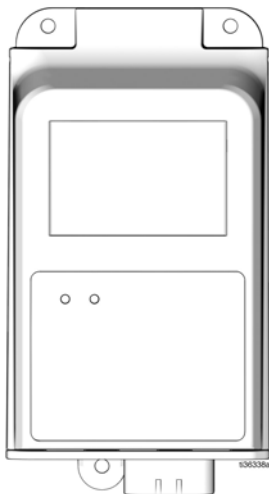

FIG. 4 Pre-drilled holes
2. Align the junction box with the pre-drilled holes (FIG. 4). Secure the junction box to the mounting surface with three screws (not provided).